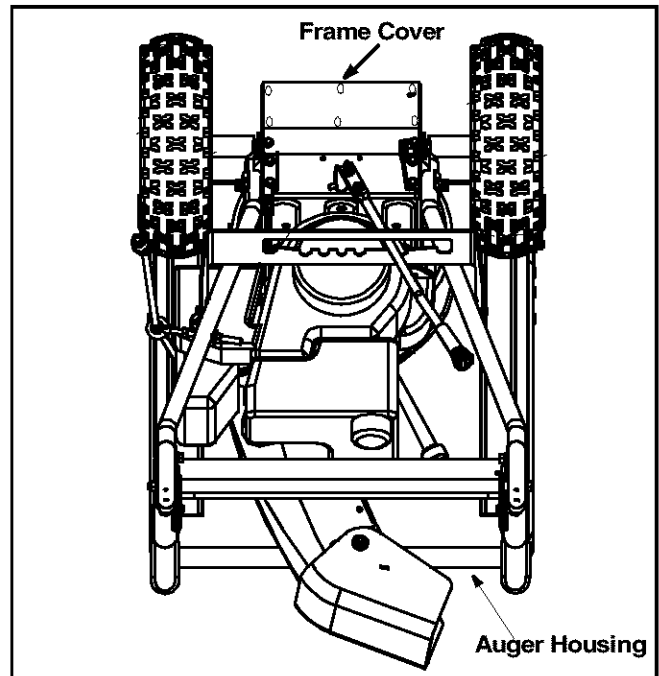

Figure 14
- Tip the snow thrower so that it rests on the auger housing. See Figure 14.